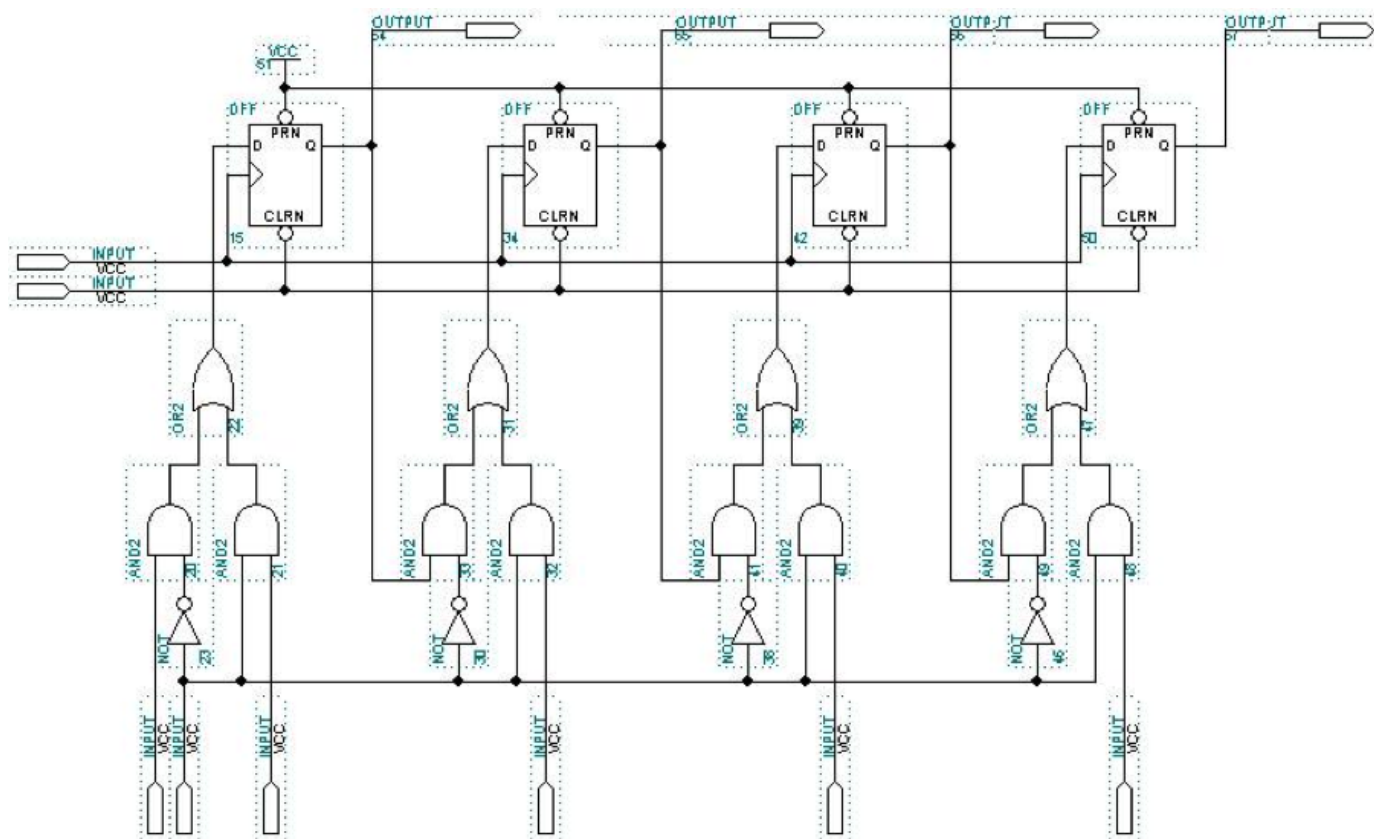

Figure 8.1: A 4-bit shift register, (needs labels for all inputs/outputs)
1. Analyze the four-bit shift register shown in Figure 8.1, and label the inputs and outputs. Use names given in the list of “input and output signals.”